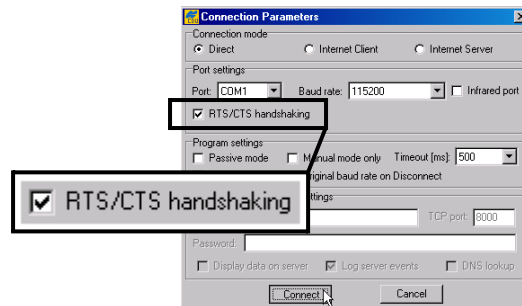

Figure 3-17. Connection Parameters – MINTER Settings
3. On the *Connection Parameters* dialog box, enable RTS/CTS handshaking (Figure 3-17).